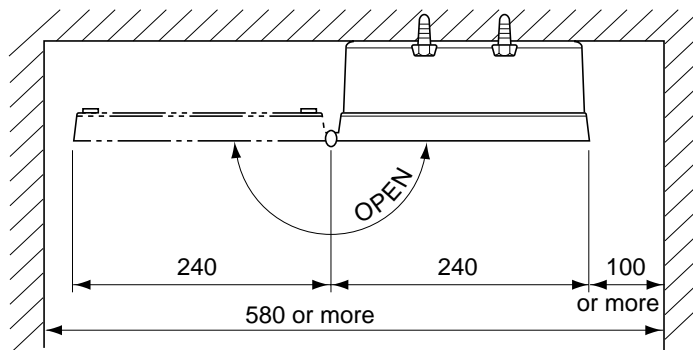

Fig. 2-1 Installation space (top view)
- ① Ambient temperature does not exceed a range of  $-10^{\circ}\text{C}$  to  $+50^{\circ}\text{C}$ . When installing outdoors, attach a shade or put the converter in an outdoor panel to protect it from direct sunlight.
- ② Not exposed to moisture. Even an immersion-proof type is not protected against entry of water. Make arrangements so that water can be drained quickly.
- ③ Not exposed to dust or corrosive gases.
- ④ Free from vibrations and shocks.
- ⑤ Space shown in Fig.2-1 is available for easy inspection and adjustment.